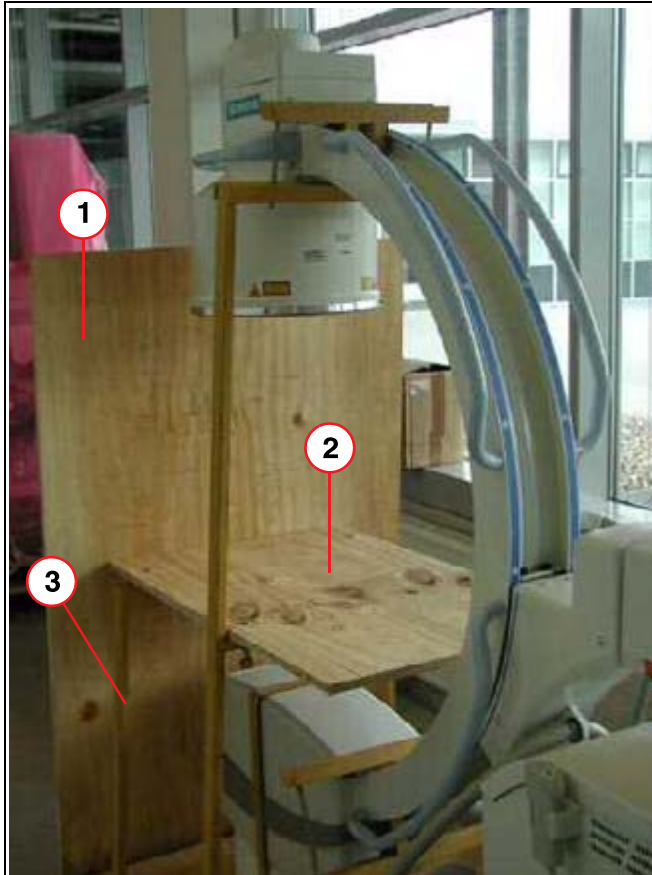

Fig. 2: Securing\_
- Cut the fastening strap, remove the ramp from the palett (1/Fig. 2 / p. 5), and lift out the board (2/Fig. 2 / p. 5).
- Unscrew the support (3/Fig. 2 / p. 5) and remove it from the palett.